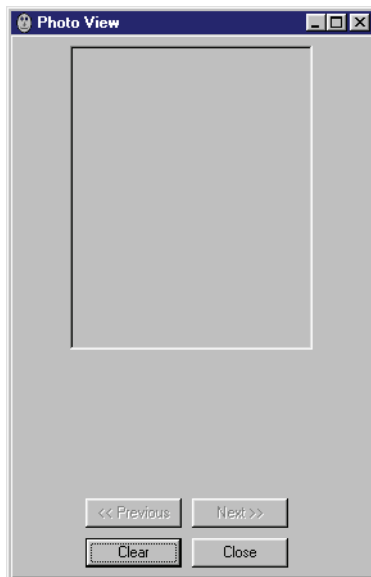

Figure 5-44: Photo View Window
2. Click on the  button. The Photo View window will appear (see Figure 5-44).